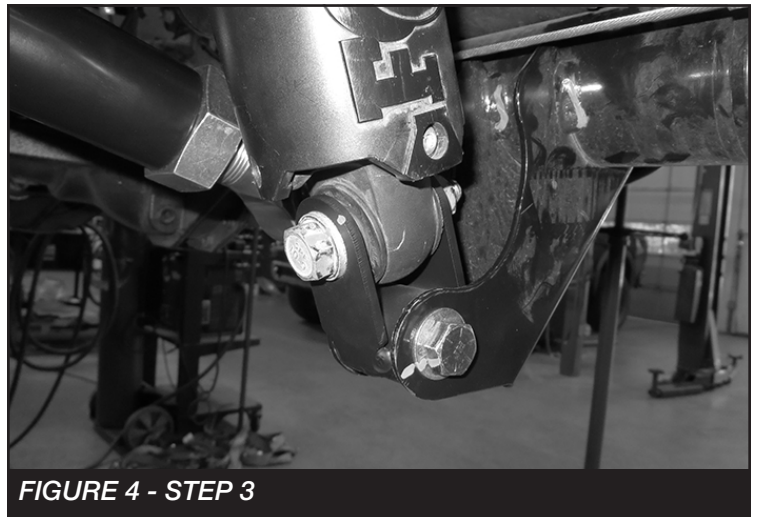

FIGURE 4 - STEP 3
5. Install FT50919 (Rear shock extension) onto the bottom of the factory shock using the supplied 9/16" hardware. Then install the shock into the vehicle using the factory hardware. **SEE FIGURE 4.** Torque all shock hardware to 147 ft-lbs.